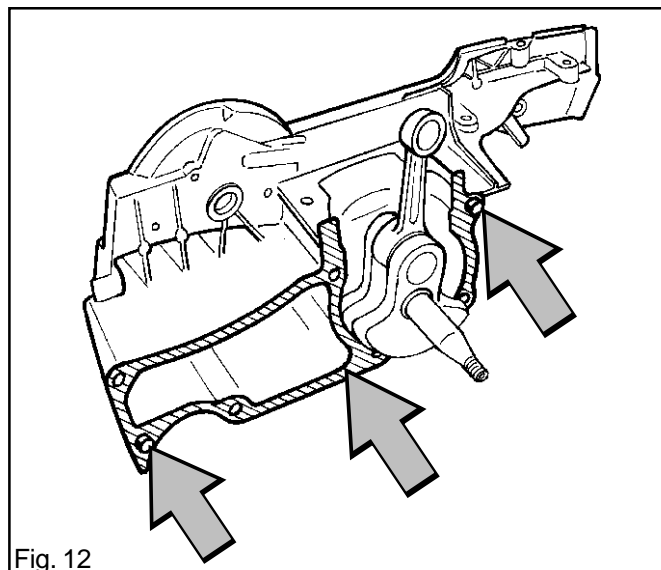

Fig. 12
- Place the guide pegs in the clutch side's crankcase half, and grease in and insert the gasket. See fig. 12.